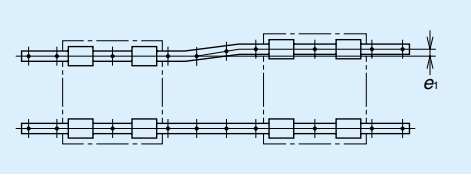

Fig. II-9-5
- Fig. II-9-5 and II-9-6 are representing the mounting errors. Their permissible values of mounting error are shown in Table II-9-4 to II-9-7.